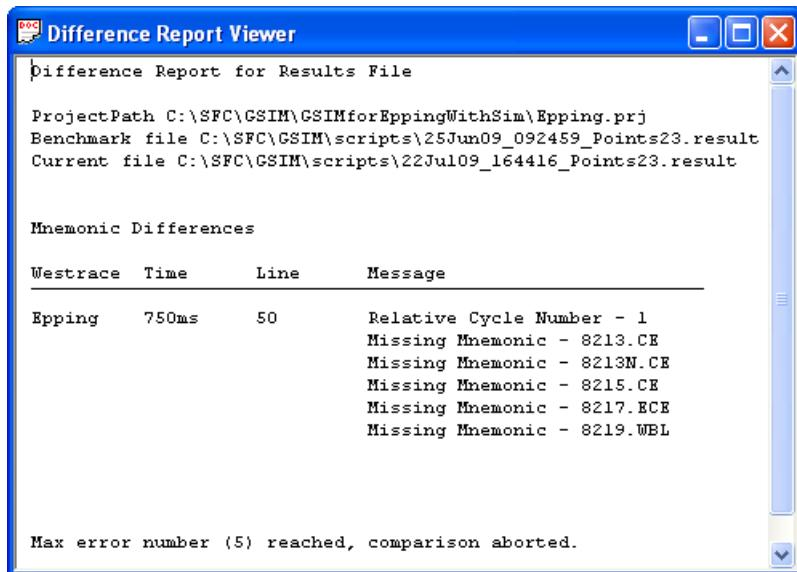

Figure 4.58 Example of a difference report in the Difference Report Viewer
- Compare the new results to the benchmark result file (see section 4.12.11). The Differences Report (figure 4.58) displays the differences found in the files (if any).
The files are compared using GSIM's algorithm to determine if there are any differences. The report is displayed in the a dialog box similar to the one shown in figure 4.58: